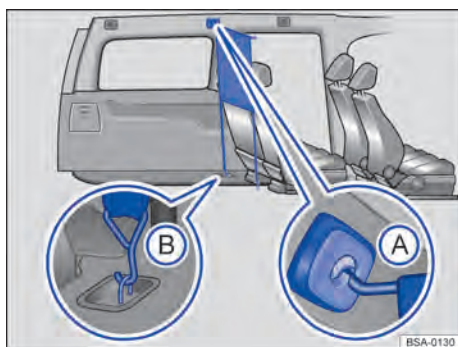

Fig. 152 Behind the second row of seats: Fitted net partition.
1. Hook the net partition into the *rear left (5-seater) or centre left (7-seater)* holder in the roof → Fig. 152 (A). Ensure that the transverse rod is pulled up over the upper position so that it latches securely in the slots.
3. Hook the net partition into the lower fastening rings → Fig. 152 (B).